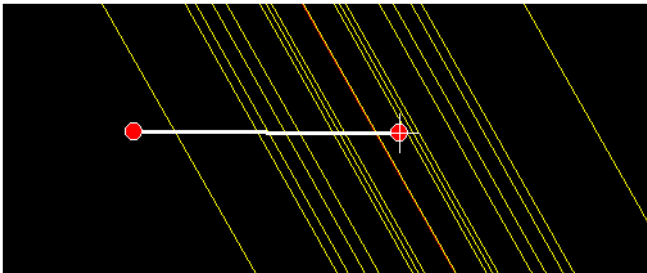

Figure 6-41. Select Area to View in Profile
2. In the Plan View, click a location at which to begin the profile. Stretch the line across the field and click once to end it (Figure 6-41).